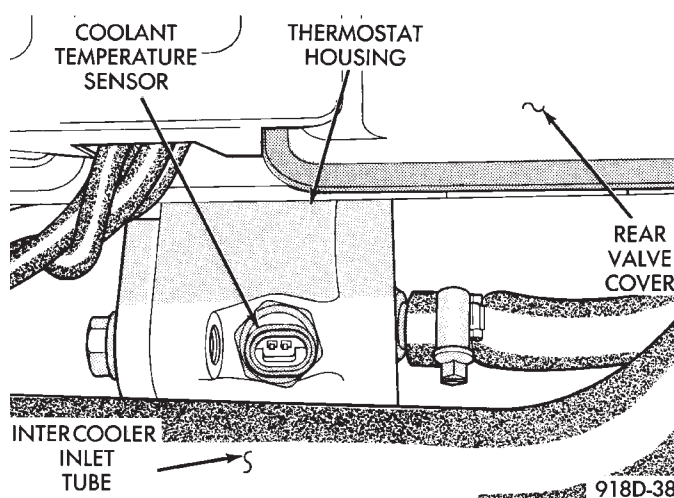

Fig. 2 Coolant Temperature Sensor—Turbo III
The coolant sensor threads into the thermostat housing (Fig. 2).
- (1) Drain cooling system until coolant level is below thermostat housing. Refer to Group 7, Cooling System.
- (2) Remove air cleaner fresh air duct.
- (3) Disconnect electrical connector from coolant sensor.
- (4) Remove sensor from thermostat housing (Fig. 2).